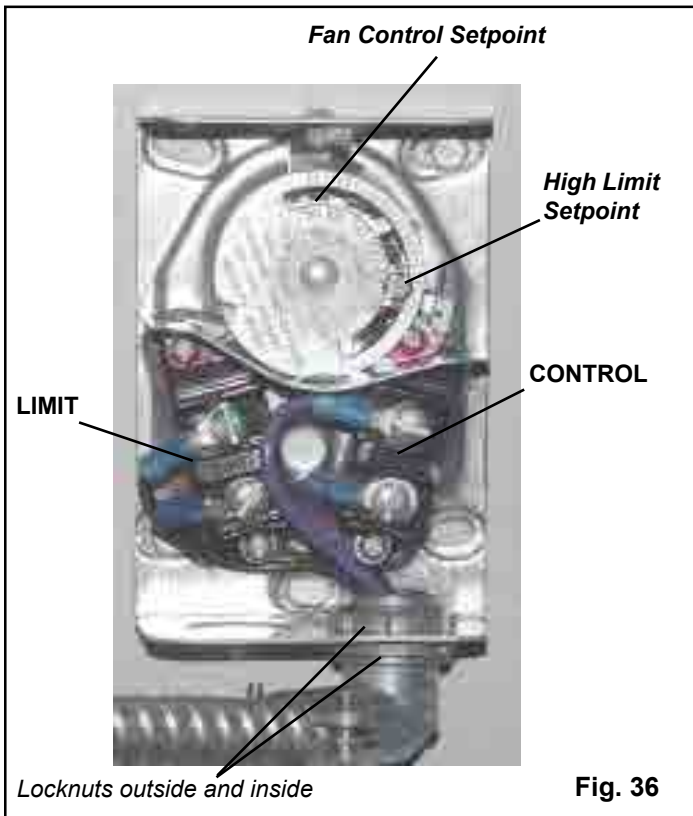

Fig. 36
4. Pry out one of the bottom knockouts of the Fan Control. Install the 90 degree flex connector as shown in Fig. 36. One of the locknuts stays on the outside of the box and one goes on the inside to tighten the connector into place. This allows for maximum room for the wires around the switches.
5. **REMOVE THE COPPER JUMPER BETWEEN THE LIMIT AND CONTROL SWITCHES. (It is not needed.)** Figure 36 shown with copper jumper already removed.
6. Connect the two VIOLET wires to the FAN CONTROL switch. ( It doesn't matter which wire is on which screw). See Fig. 36.
7. Connect the WHITE and SKY BLUE wires to the LIMIT switch. ( It doesn't matter which wire is on which screw). See Fig. 36.
10. FAN CONTROL setup: Move furthest left pointer to the 120° position, then move the pointer to the right of it to the 150° position. Fig 36. This is a good starting point, however, the settings between the 2 pointers may need to be changed if short cycling occurs.